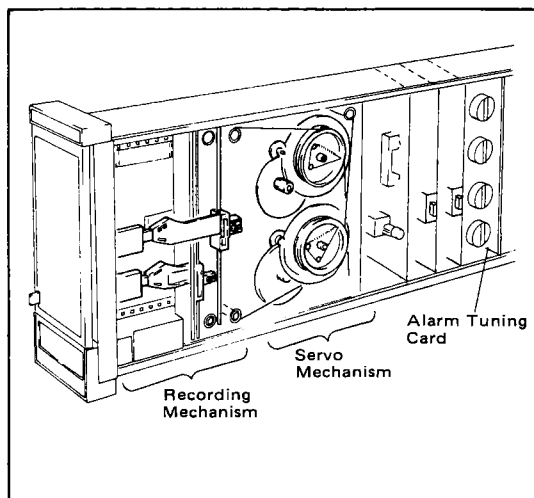

Figure 3-2. Drawout of Alarm Tuning Card.
- (3) Using the card withdrawing tool, pull the Alarm Tuning card out of the unit (see Figure 3-2).